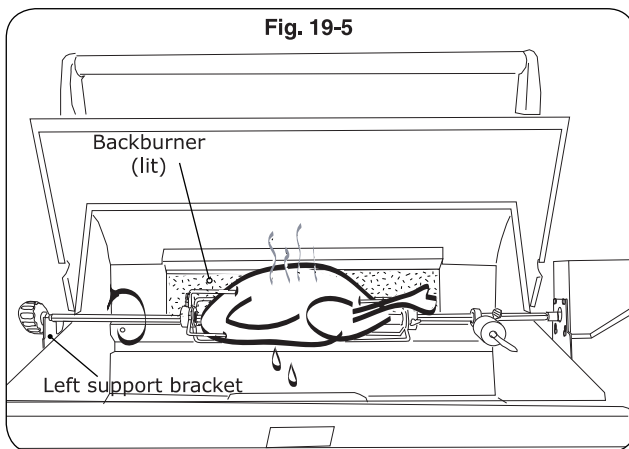

Fig. 19-5
9. Slide the counterbalance weight up or down the arm until the rod rotates most evenly then tighten thumb screw (Fig. 19-5).